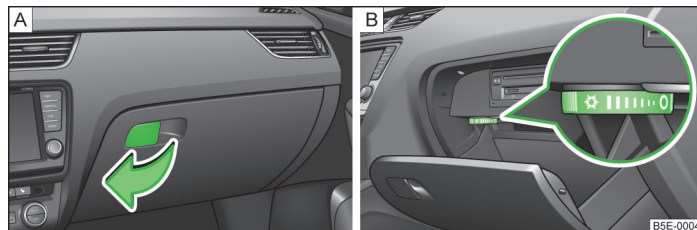

Fig. 69 Open storage compartment/control cooling of storage compartment
- Pull the handle of the flap in the direction of the arrow » Fig. 69 – [A] and fold down the flap.
- Use the rotary switch » Fig. 69 – [B] to open/close the air supply.